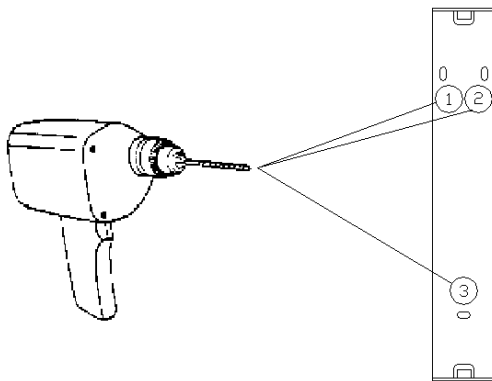

Figure 9
- Hold the bracket against the wall (or ceiling) in its final location and carefully mark the centres of the three holes. To ensure a neat installation make sure the bracket is level. See figure 9.